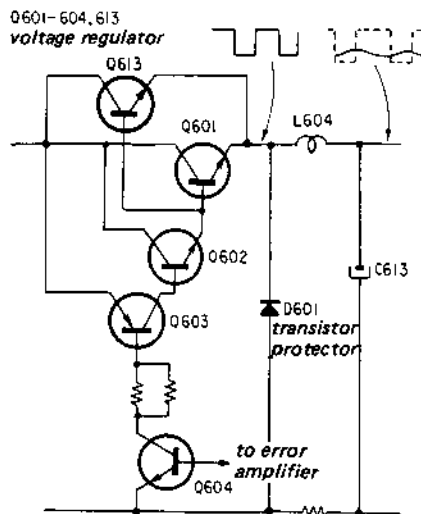
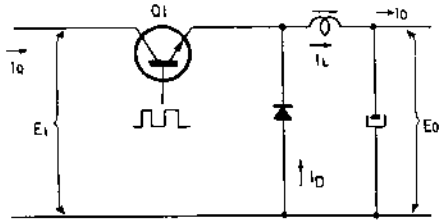

Fig. 5
Fig. 6
**3. Chopper-Type Voltage Regulator (See Fig. 5)**
- The circuit diagram in Fig. 5 is simplified to the circuit diagram in Fig. 6.